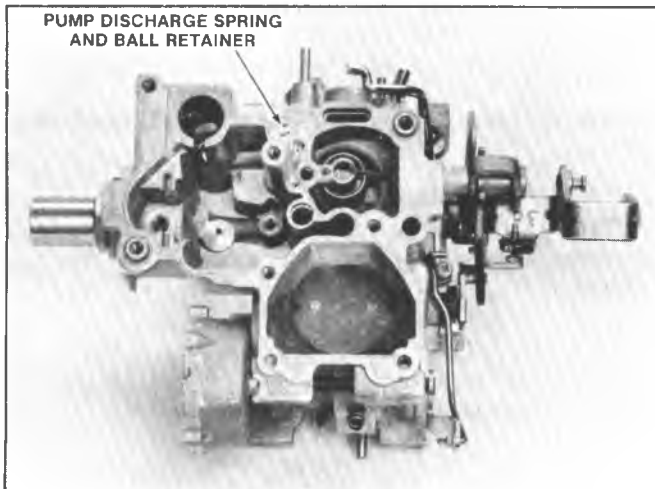

Fig. 6C2-30—Pump Discharge Spring and Ball
2. Remove (4) throttle body to bowl attaching screws and lockwashers and remove throttle body assembly (Fig. 6C2-33).